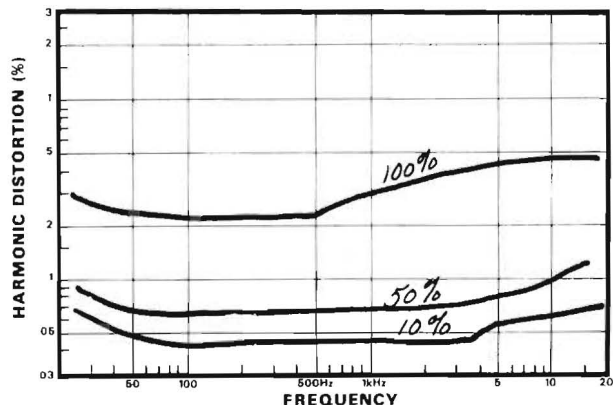

Figure 23 Harmonic Distortion Plotted vs Frequency at Different Power Levels
6. The harmonic distortion can be plotted against frequency at various power levels such as 10%, 50% and 100% on a suitable chart. This will produce results similar to those illustrated by Figure 23.